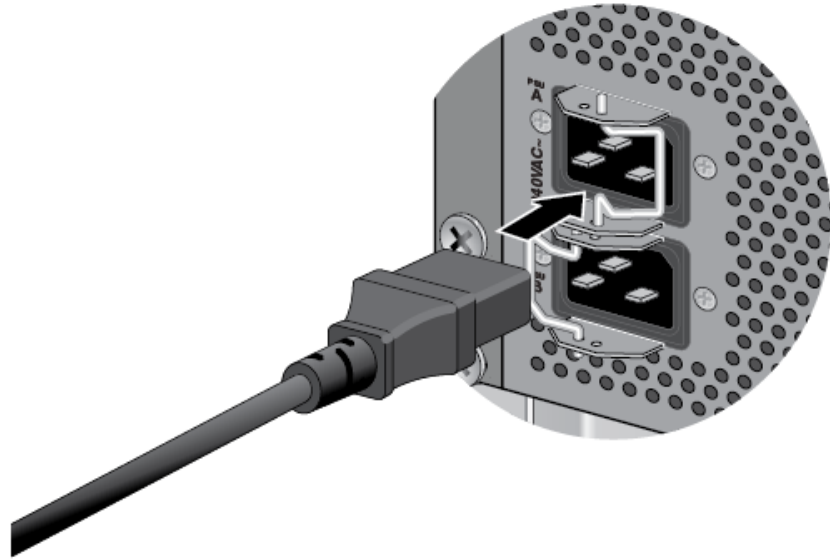

Figure 47. Connecting the AC Power Cord
1. Connect the AC power cord included with the power supply to the AC power connector on the rear panel of the chassis. If the chassis has two power supplies, you may power them on one at a time or simultaneously. Refer to Figure 47 on page 82.